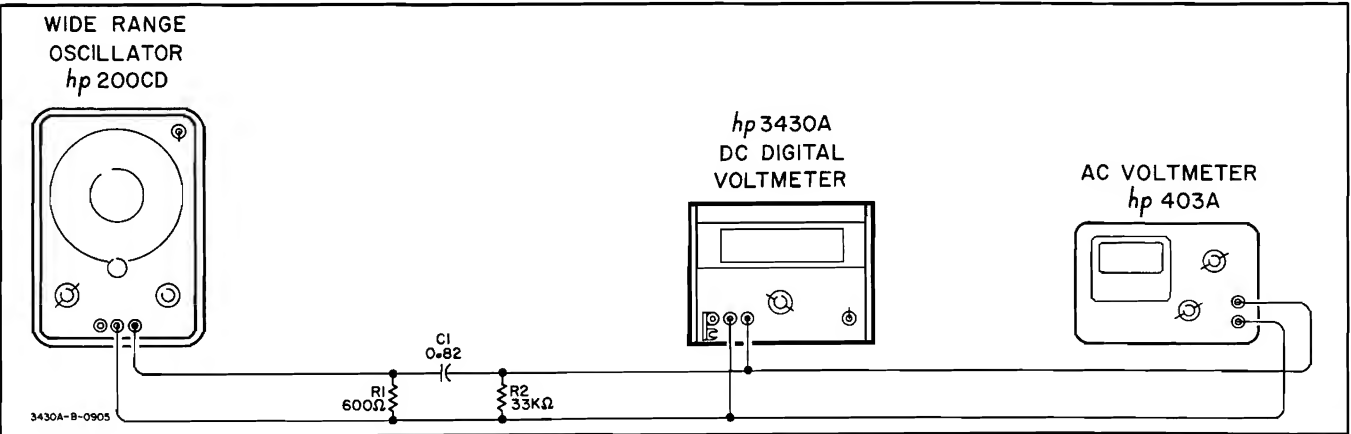

Figure 5-3. AC Superimposed Noise Check
5-11. Figure 5-3 shows the AC Superimposed Noise Rejection Check. R1 is a 600 Ω load for the test oscillator. C3 blocks any dc from the oscillator output, and R2 provides a low source resistance for the 3430A input circuits.
- a. Connect the 3430A as shown in Figure 5-3.